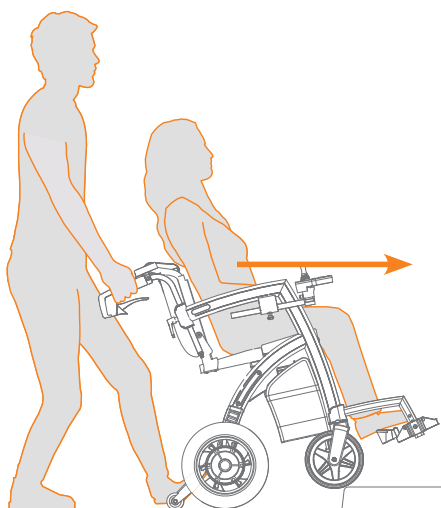

Figure 59: Going up a curb.
- c. When the front wheels are on the curb, keep pushing the wheelchair forward, so that the rear wheels also get on the curb (**Figure 59**).